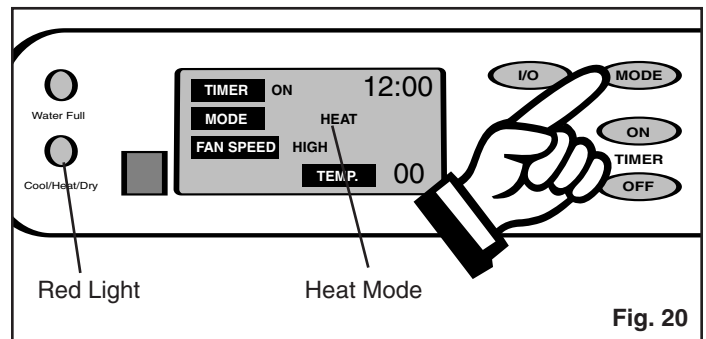

Fig. 20
- 1) Press the **MODE** key until the word **Heat** is displayed in the **LCD** window. *Fig. 20*. Each depression of the **MODE** key will advance to a different mode setting (**Cool-Dry-Heat-Fan**). The **red** indicator light will come on indicating the "Heating" mode is operational (there may be a slight delay of 5-10 seconds before the cycle begins, this is normal).